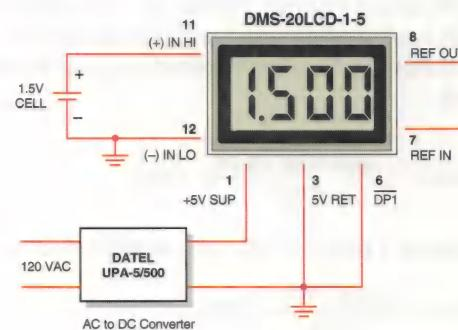
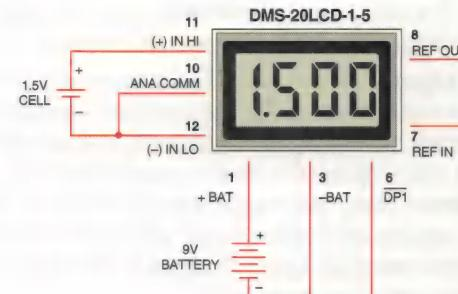

Figure 5. Floating Input Measurements
Figure 6. Floating Input Measurements
4. Floating Signal Source Measurements: Floating signals can be measured using the circuits shown in Figures 5 and 6. Figure 5 uses a 5V-powered meter. Figure 6 uses a 9V-powered meter. Connecting pin 10 (ANALOG COMMON) to (-) INPUT LO (pin 12) provides the reference point for the meter's input.